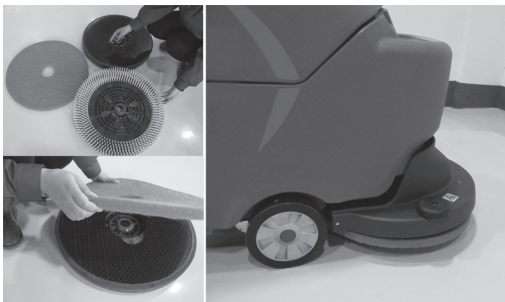

Figure 10
3. Place the pad on pad holder before installing the pad holder (Figure 10).